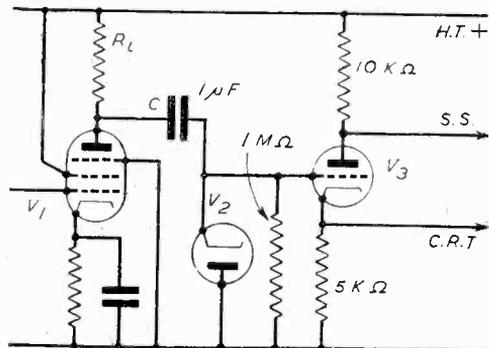
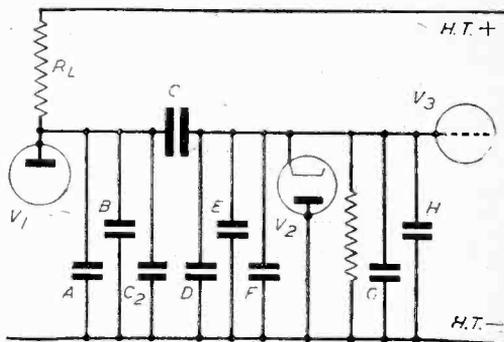

Fig. 1.—A typical video stage with D.C. restorer and sync separator.
Fig. 2.—Stray capacities of the Fig. 1 circuit are indicated in this diagram.
**M**ANY readers who are building their own television receivers will, no doubt, include one video amplifier to amplify the picture signal and sync. pulses after demodulation. The video amplifier will be followed by a D.C. restorer and then a phase splitter to feed the C.R. tube and sync. separator. Fig. 1 shows the general type of circuit which may be used.
Because it is required to amplify a very wide range of frequencies evenly we must use a resistance ( $R_L$ , Fig. 1) as the anode load of the valve, since the value of a resistance does not alter over the range we are considering. Through this resistance will flow the
In Fig. 2, the circuit of Fig. 1 is redrawn showing where these capacitances arise.
If the circuit of Fig. 2 is examined it will be seen
In actual practice, using these valves in the circuit of Fig. 1 and soldering condenser C connection direct to the grid terminal of the 955 valve holder and wiring the cathode terminal of the VR92 valve holder direct on to the same point, it has been found possible to resolve the 3 Mc/s lines in the morning test-card C when viewed on VCR517 whilst using as much as 8,200 ohms for  $R_L$ .